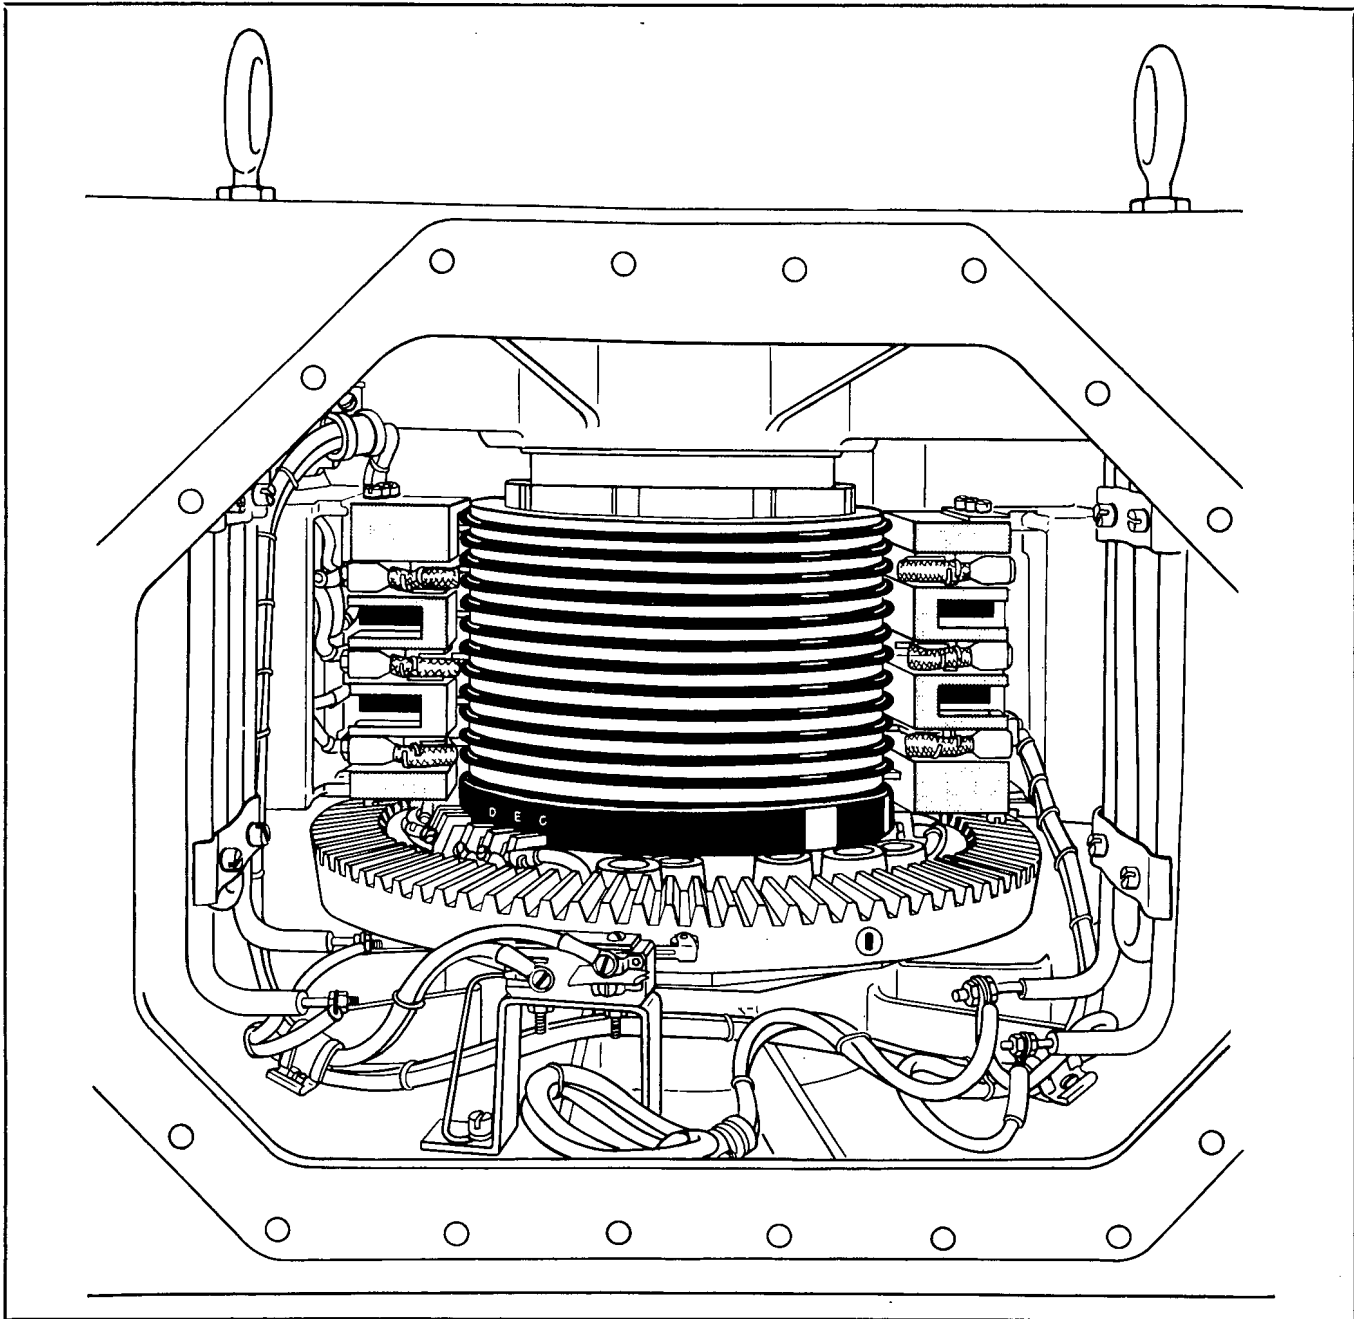

Figure 6-6. Brushes in Antenna Pedestal
e. The replacement of the slip ring brushes in the antenna pedestal is shown in Fig. 6-6. To inspect the brushes, loosen the eight captive screws that hold the brush cover to the housing and pull the brush assembly